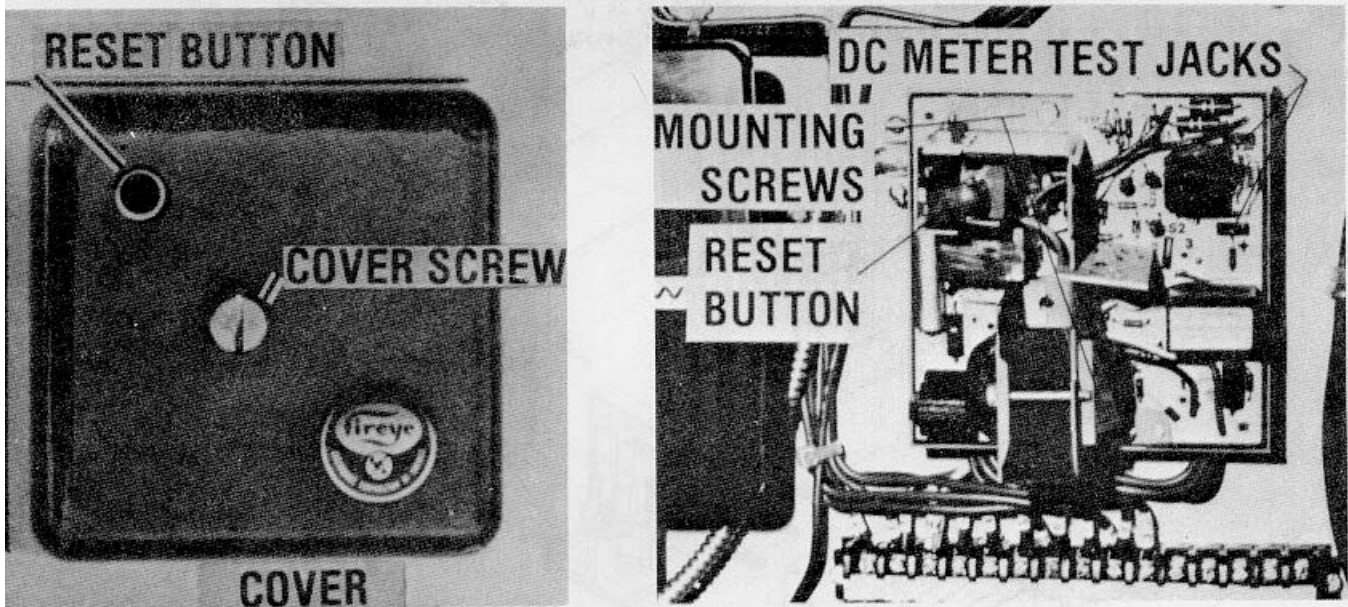

Figure 29. FLAME PROGRAM CONTROLLER
- 1. Loosen screw in cover; remove cover. Ref. Fig. 29.
- 2. Loosen retaining screws in chassis - one at top and bottom; remove chassis. Ref. Fig. 29.
- 2. Install the cover (Fig. 29).